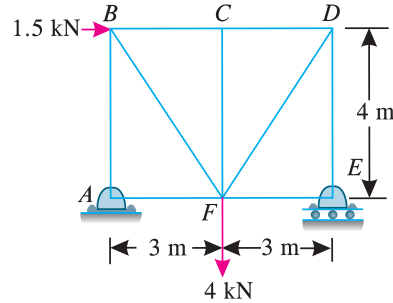

Fig. 13.66.
1. A truss shown in Fig. 13.66 is subjected to two points loads at *B* and *F*. Find the forces in all the members of the truss and tabulate the results.